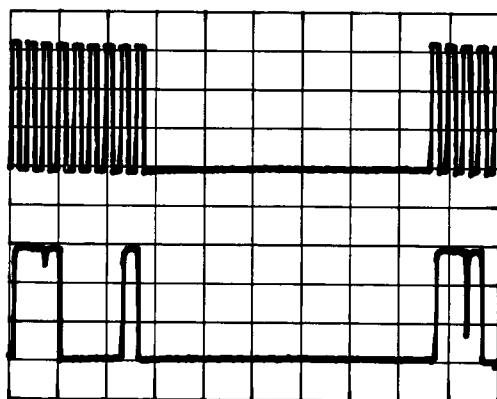

Figure 8-36. A2A10 HNR1 Test Point
- 22. Connect channel 2 to A2A10TP HNR1. The waveform should be as shown in Figure 8-36.